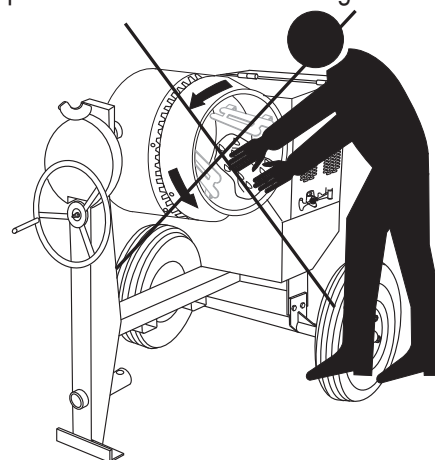

Figure 20. Filling Mixing Drum
3. Placing the shovel all the way inside the drum (Figure 20) will cause the shovel to strike the blades. This condition will make the shovel rotate, and could cause injury to personnel. **NEVER** place hands inside the mixing drum while it is rotating.